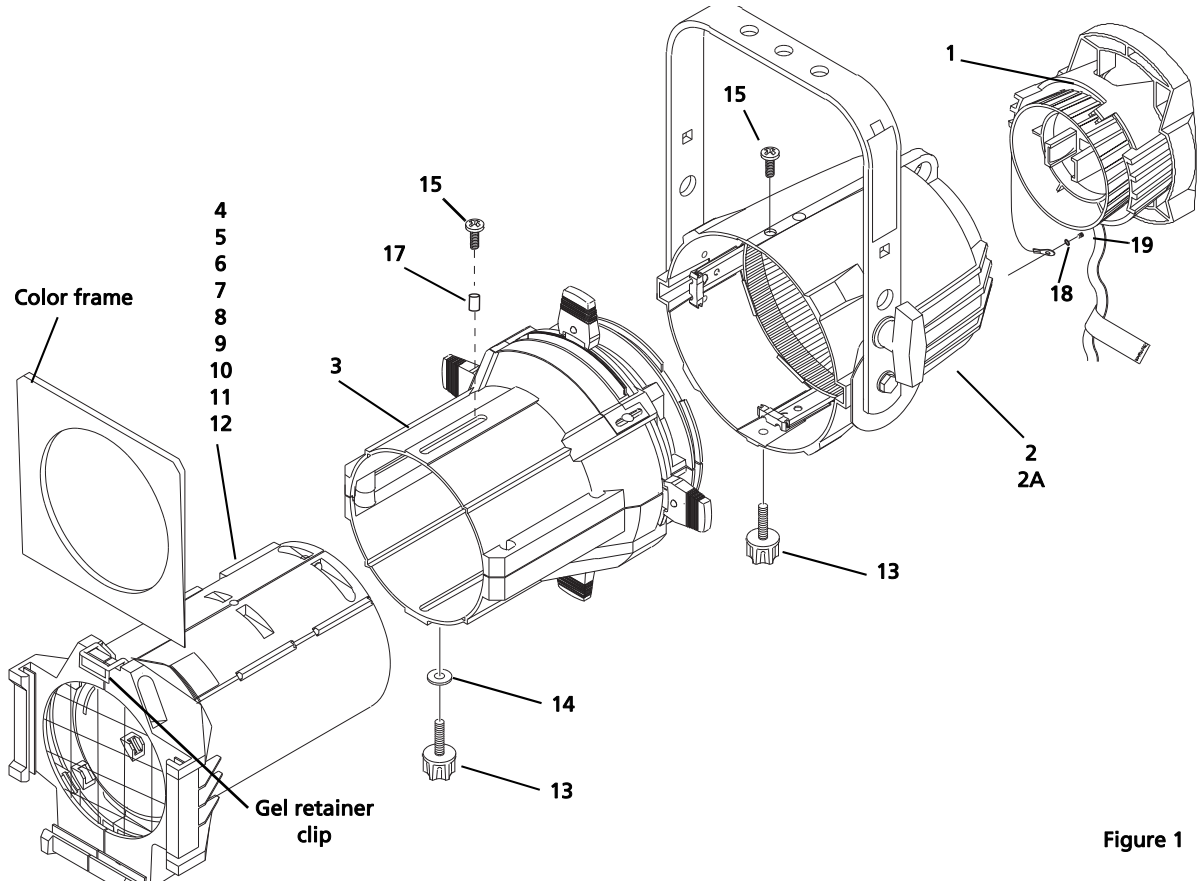

Figure 1
- 5: Insert lens tube assembly (4–12) fully into the shutter barrel assembly (3). Align the mounting hole with the slot and secure with knob (13). Install screw (15) and spacer (16) on top of shutter barrel. See Figure 1.
- 6: Install reflector housing (2) onto shutter barrel assembly (3) and align the two mounting holes. Secure with screw (15) top of reflector housing and knob (13) on bottom. Tighten both securely. See Figure 1.
- 7: Install the lamp socket assembly (1) to the reflector housing (2) and secure with brass knurled screw on rear of lamp socket assembly.
- 8: Secure the earth bond wire to the luminaire body using screw (19) and washer (18).